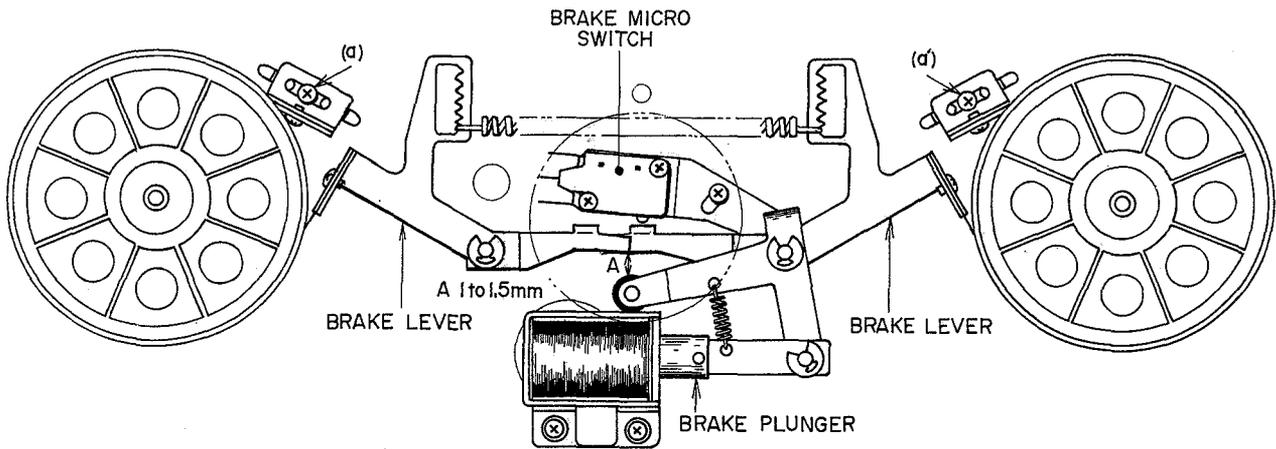

Fig. 8
6. BRAKE BAND POSITION ADJUSTMENT AND BRAKE TENSION ADJUSTMENT (Refer to Figs. 8, 9, 10)